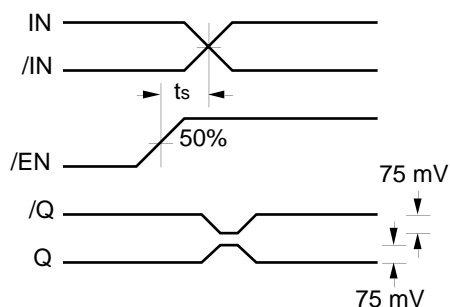

Figure 1. Set-up Time
5. The set-up time is the minimum time that /EN must be asserted prior to the next transition of /IN/IN to prevent an output response greater than $\pm 75\text{mV}$ to that /IN/IN transition (see Figure 1).